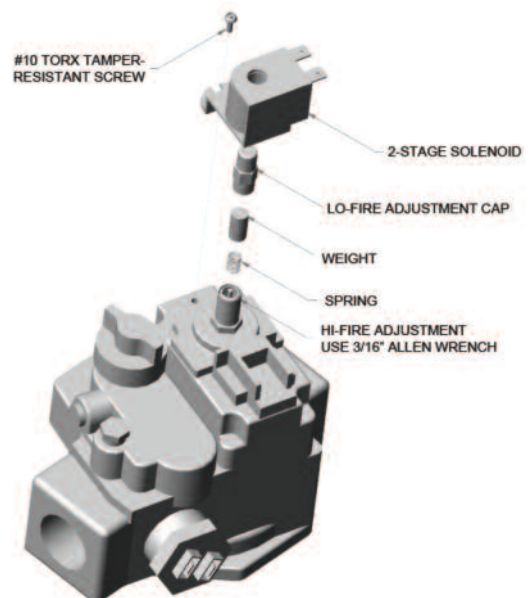

Fig. 47: 2-Stage Gas Valve Adjustment (Invensys)
5. Using a 3/8" wrench, carefully remove the aluminum cap that was under the solenoid valve-count # of turns when removing the cap. Be careful not to drop the cylinder (weight) or the small spring that is under the cap –see Fig. 47.
7. Using an Allen wrench, turn the screw clockwise to increase or counterclockwise to decrease high fire manifold pressure –see Fig. 47.